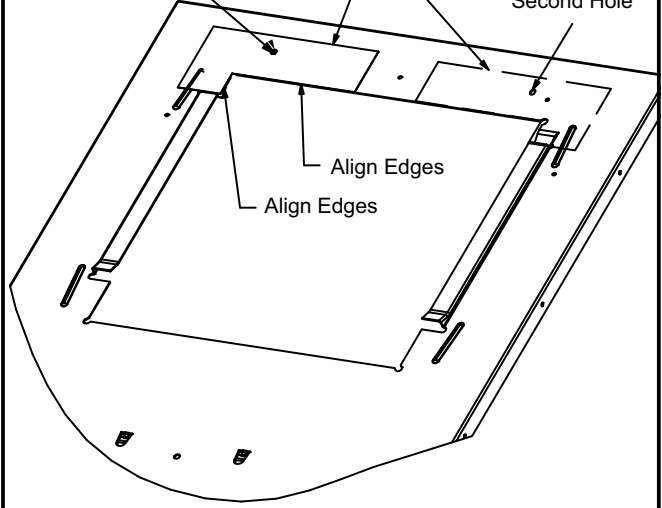

FIGURE 7
- 23 - Align template with the blower deck cutout as shown in figure 7. If necessary drill a 3/16" diameter clearance hole. Flip the template around and drill another hole of same size on other side of blower deck. See figure 7.